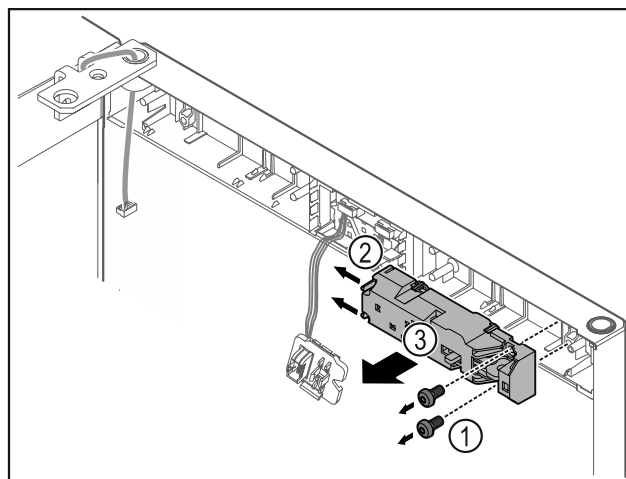

Fig. 43
- Remove the screws Fig. 43 (1).
- Press the latching lugs Fig. 43 (2) to the side and take off the remote lock Fig. 43 (3).